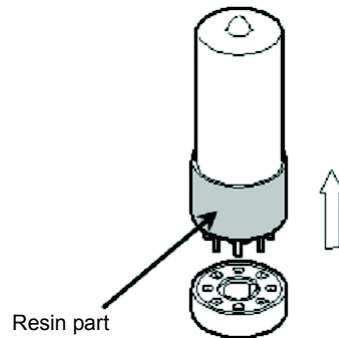

Fig.4-17
- 1 Wearing cloth gloves, hold the resin part of the D2 lamp (Fig.4-17), and slowly pull it straight up.